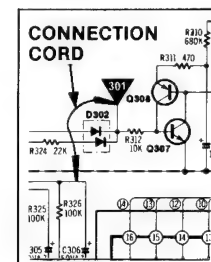

Fig. 23
2. As shown in fig. 23, connect the TP301 and ground.